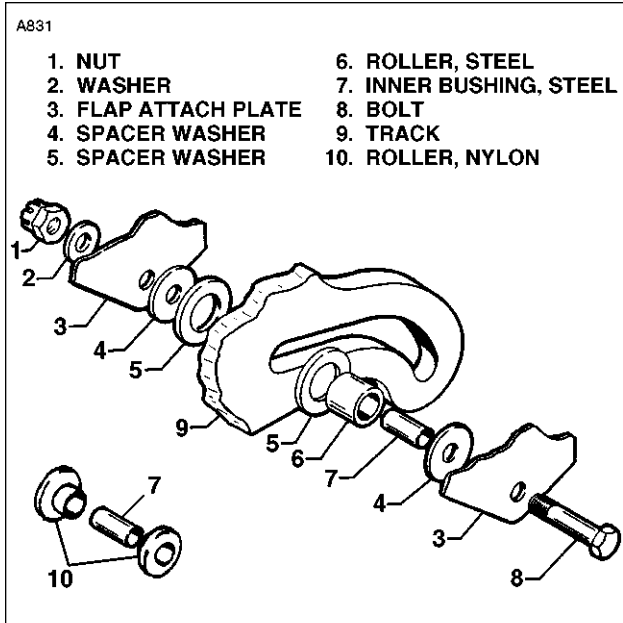

Figure 4-3. Flap Roller Installation
- Position flap in place, lubricate flap rollers and tracks (see Lubrication Chart, Section II) and install the lower roller assemblies. (Refer to Figure 4-3.) When nylon rollers are installed lubrication of rollers and tracks is not required.
- B. Position the flap in place, lubricate the flap rollers and tracks (refer to Lubrication Chart, Section II) and install the lower roller assemblies. (Refer to Figure 4-3.)